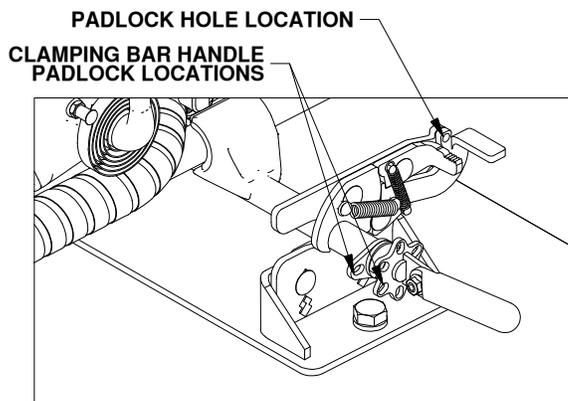

Figure D3: View looking down at Biker Bar.
- Optional padlock use.** For added security there are locations where padlocks can be installed, two on each side of the base and one on the clamping bar near the handle, See figure D3. Padlocks should only be installed once the bike is securely clamped into the base. When aligning holes to install a padlock onto the clamping bar always turn the clamp handle so that it becomes tighter.